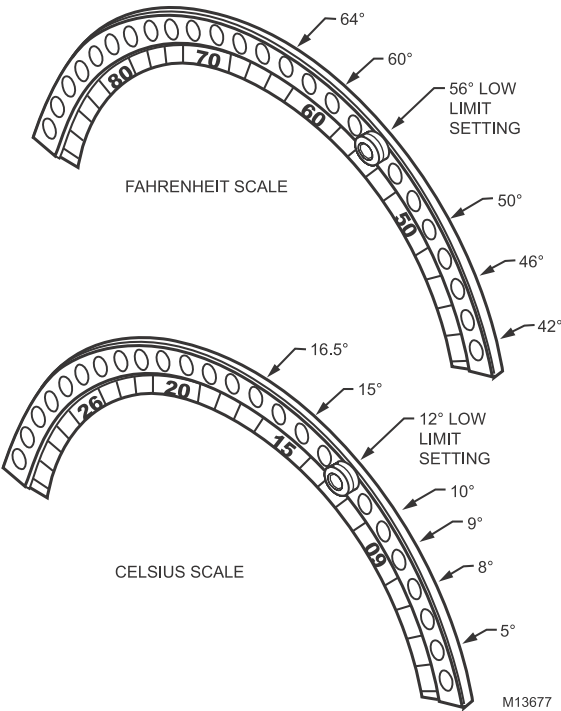

Fig. 4. Low range stop settings.
4. Using the temperature markings on the range stop, insert supplied screws into the minimum and/or maximum range stop holes and tighten. Refer to Tables 1 and 2 for range stop temperatures. See Figs. 4 and 5.